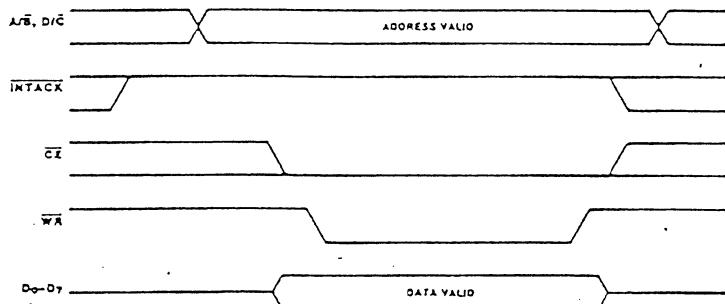

Figure 13. Write Cycle Timing
**Write Cycle Timing.** Figure 13 illustrates Write cycle timing. Addresses on A/B and D/C and the status on INTACK must remain stable throughout the cycle. If  $\overline{CE}$  falls after  $\overline{WR}$  falls